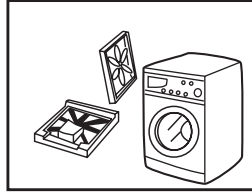

Fig. 1
- Remove all the packing materials (including the EPE base) to prevent vibration during use, as shown in Fig.1. Upon opening of the package, water drops may be seen on the plastic bag and the porthole. This is normal phenomenon resulting from water test in the factory.